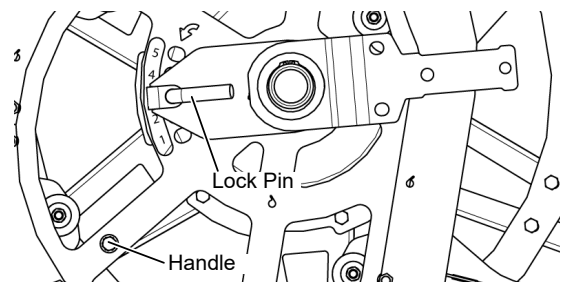

Fig. 99 Cam Reel Adjustment
1. Make sure that the quick release lever is in the open position prior to installing the draper on the deck. The location of the lever is shown in Fig. 99 on page 61.